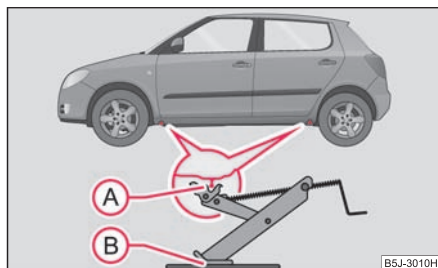

Fig. 198 Changing a wheel:
- Position the lifting jack by selecting the jacking point - engraving in the lower sill - which is closest to the wheel to be removed ⇒ fig. 198.
- Align the lifting jack so that its claw grasps the vertical web on the engraving of the lower sill (A) and the bottom base plate of the lifting jack (B) is resting flat with its complete surface against firm ground.